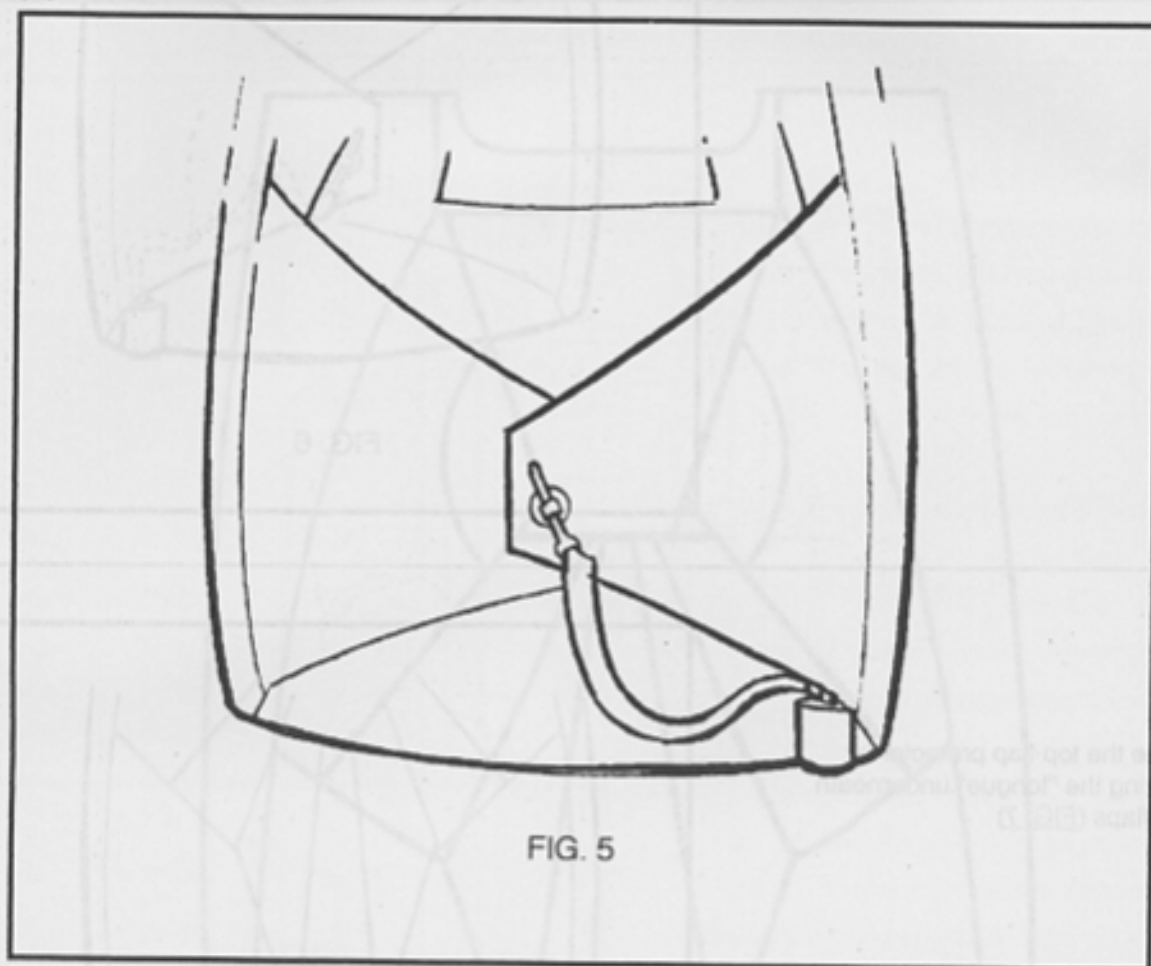

FIG. 5
5) Close the left side flap, then the right flap, securing the closing loop with the pin. (FIG. 5)
- 5) Close the left side flap, then the right side flap, securing the closing loop with the pin. (FIG. 5)